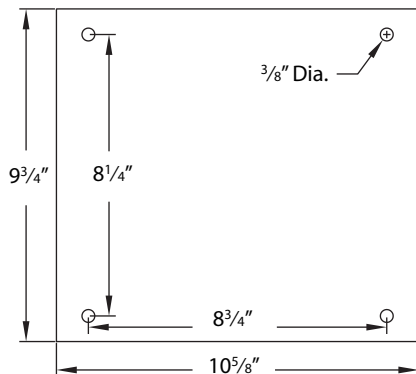

Figure 4 – Base Dimension and Mounting Holes
Refer to Figures 4, 5 6 and 7.
Refer to Figure 4.
- Figure 4 shows the base dimensions and mounting holes. See Specifications for required space to allow belt assembly in horizontal position.